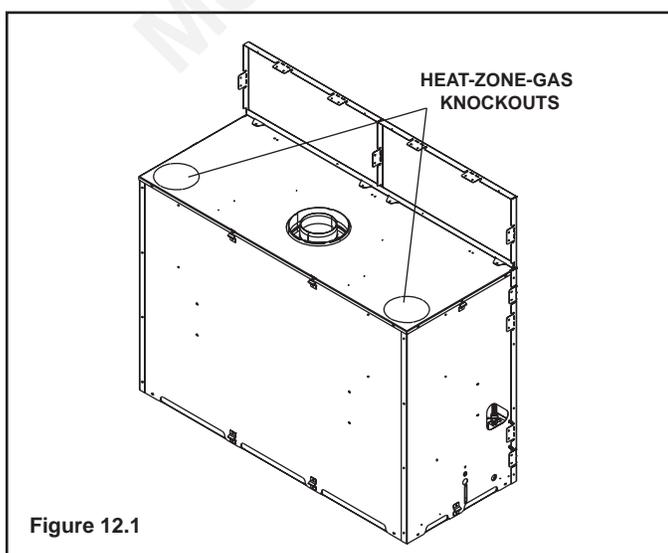

Figure 12.1
1. Remove the knockout from the top of the appliance and discard it (see Figure 12.1).